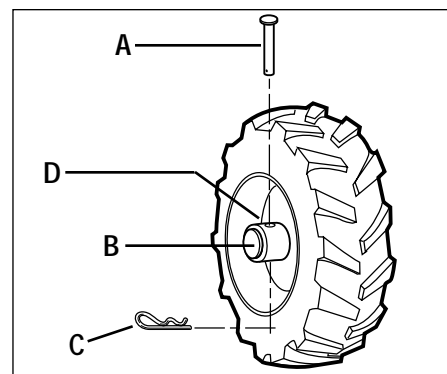

Figure 3-2: WHEEL DRIVE position.
Each wheel is equipped with a wheel drive pin (A, Figures 3-2 and 3-3) that secures the wheel to the wheel shaft (B). The wheels can be positioned in either a WHEEL DRIVE or a FREEWHEEL mode.
3. Remove hairpin cotter (C, Figures 3-2 and 3-3) from wheel drive pin (A).
4. FOR WHEEL DRIVE MODE (Figure 3-2): Slide wheel outward and align holes in wheel hub (D, Figure 3-2) and wheel shaft (B). Insert wheel drive pin (A) through wheel hub (D) and wheel shaft (B).